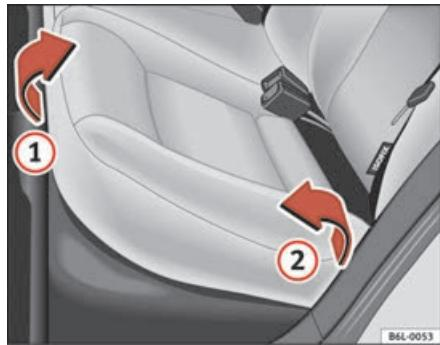

Fig. 77 Folding up the rear seat cushion
- Pull the front edge of the seat cushion ⇒ fig. 77 ① upwards in the direction of the arrow.
- Lift the cushion ② forwards in the direction of the arrow.